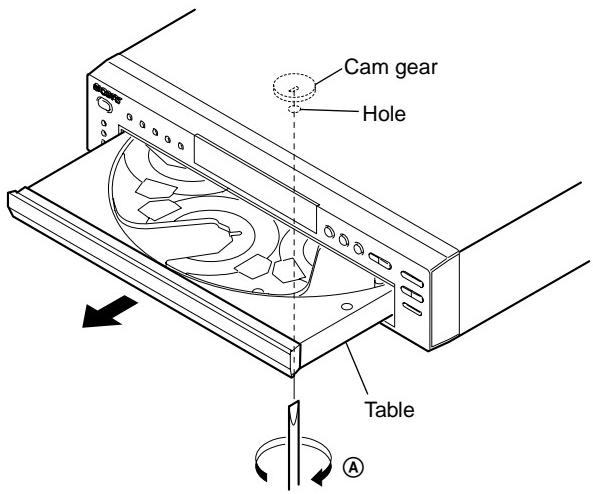

Fig. 2
- 1) Insert a flat-head (-) screwdriver into a hole at the bottom, and rotate the cam gear in the direction of the arrow **A**. (See Fig.2)